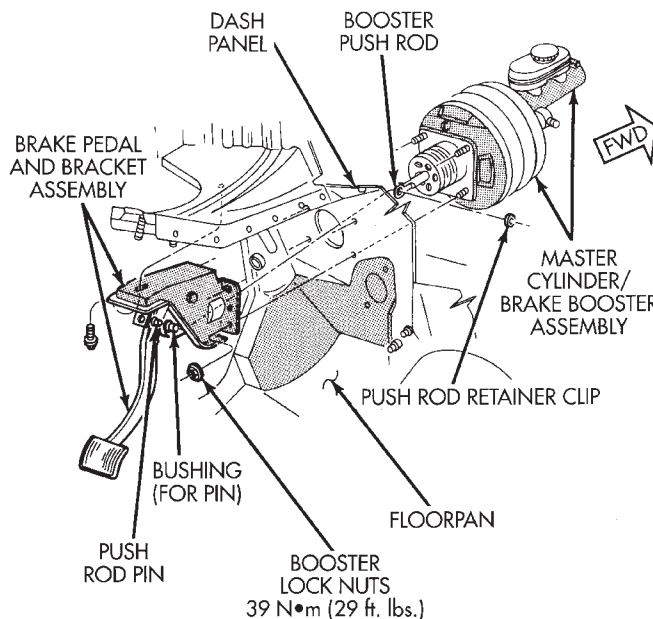

Fig. 25 Power Brake Booster Mounting
- (4) Remove retainer clip that holds booster push rod on pedal pin (Fig. 25). Then slide push rod off pin.
- (5) Remove four nuts that attach booster to dash panel.
- (6) In engine compartment, slide booster forward, tilt it upward slightly, and remove it from engine compartment.
- (7) If booster will be stored on bench for any length of time, cover booster with shop towels to prevent dust entry and place short lengths of rubber hose over booster studs to protect threads.